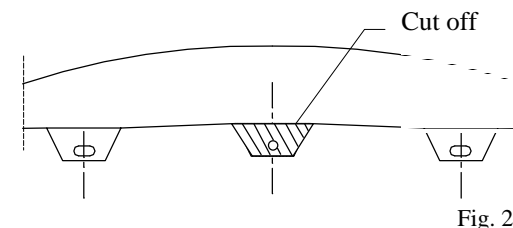

Fig. 2
1. Unscrew the plastic bumper and then cut off the fragment from it, as shown on the fig. 2.